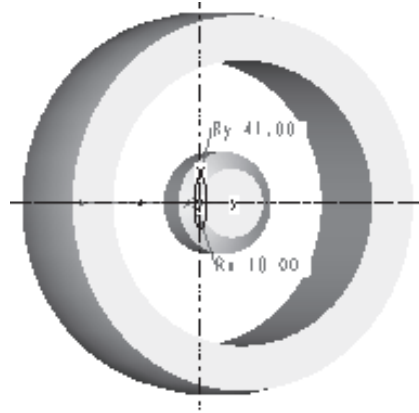

Figure 8-70 Sketch for section 1 with dimensions
16. Draw the sketch of the first section and add dimensions as shown in Figure 8-70.